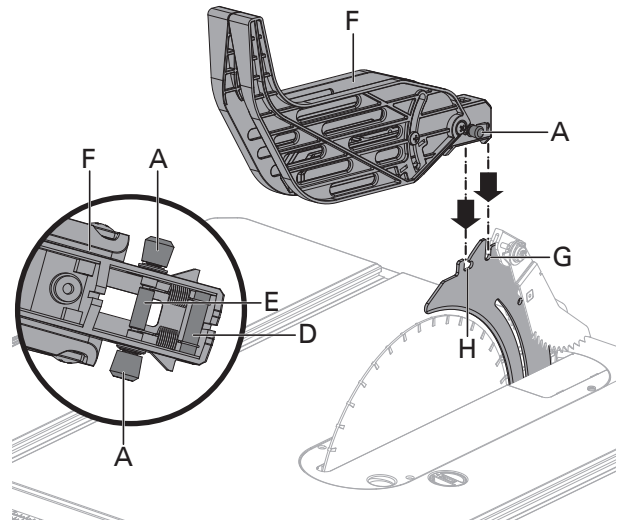

Fig. 10b
- Hold and push knobs (A) forward to the front of the the blade guard. Place the pins (D, E) on the blade guard (F) into the slots (G, H) indicated on the riving knife. (Fig. 10b)